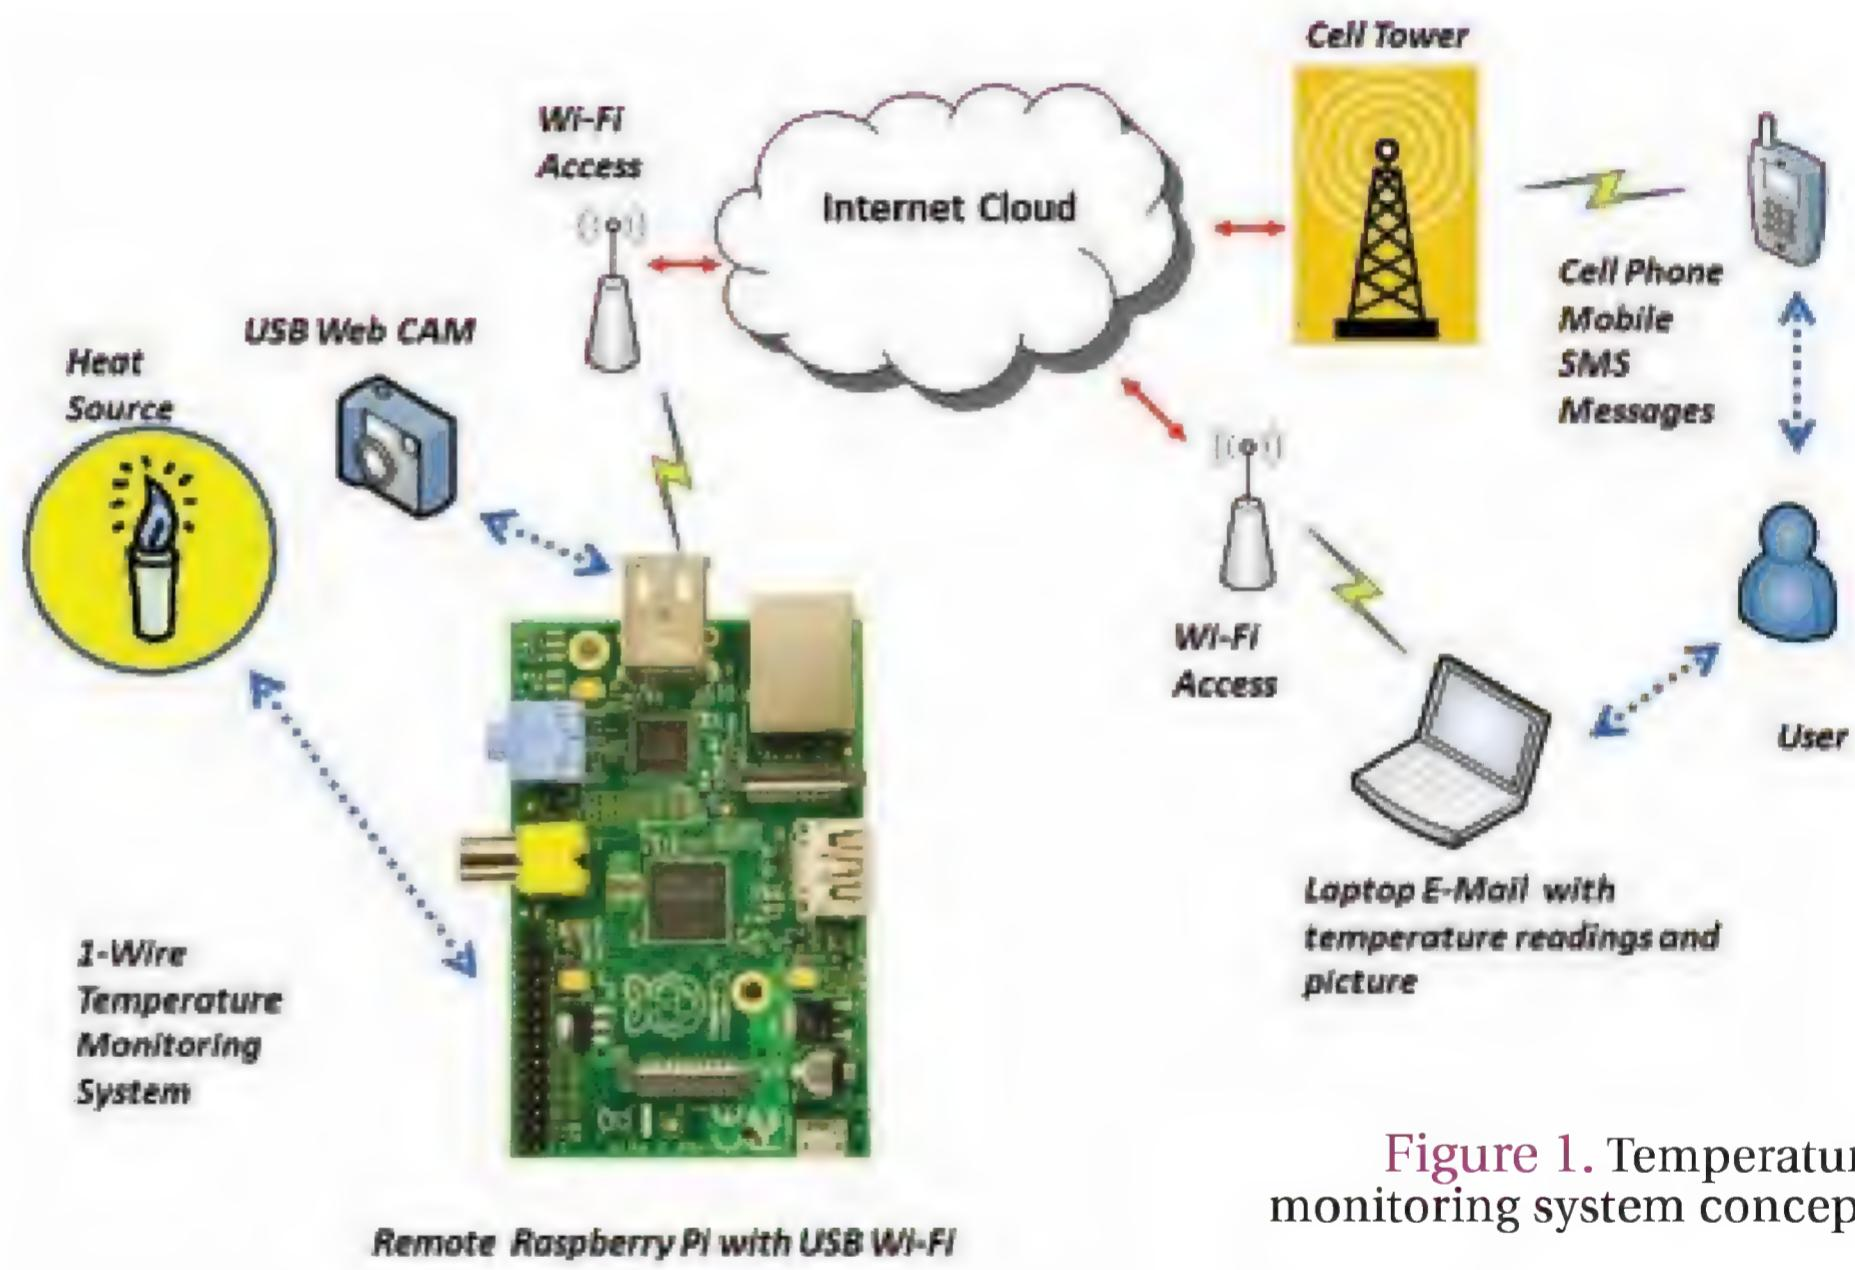

Figure 1. Temperature monitoring system concept.
A while back, I purchased an LEDwholesalers 48 LED desk lamp (about \$30 from Amazon.com). It's not very pretty, but it provides a lot of light over a magazine size area and I use every day as a reading lamp. Early models of the lamp had a touch capacitive on/off switch in the base which proved troublesome, and was replaced with an inline mechanical switch as shown in **Figure 1**.
■ **FIGURE 1.** The LEDwholesalers 48 LED desk lamp with 120V power adapter and mechanical on/off switch.
This article will demonstrate integration of simple 1-Wire temperature monitoring hardware with the Raspberry Pi. The hardware and software features of the Pi will be used to develop an increasingly sophisticated thermal monitoring system, including cloud-based data logging, SMS messaging, email data alerts, and pictures to your Internet enabled devices. The concept for our remote monitoring system is shown in Figure 1.